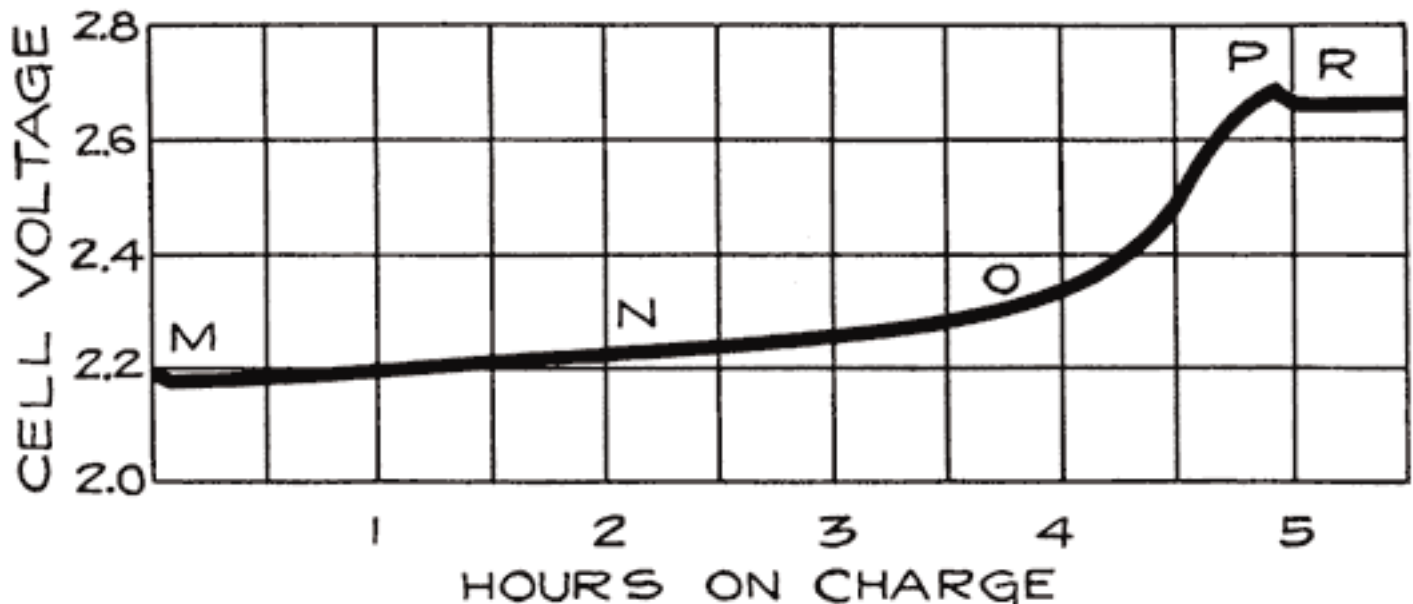

Fig. 24. Voltage Changes During Charge
**Voltage.** Starting with a battery which has been discharged until its voltage has decreased to 1.7 per cell, we pass a current through it and cause the voltage to rise steadily. Fig. 24 shows the changes in voltage during charge. Ordinarily the voltage begins to rise immediately and uniformly. If, however, the battery has been left in a discharged condition for some time, or has been "over discharged," the voltage rises very rapidly for a fraction of the first minute of charge and then drops rapidly to the normal value and thereafter begins to rise steadily to the end of the charge. This rise at the beginning of the charge is due to the fact that the density of the acid in the pores of the plates rises rapidly at first, the acid thus formed being prevented from diffusing into the surrounding electrolyte by the coating of sulphate. As soon as this sulphate is broken through, diffusion takes place and the voltage drops.
As shown in Fig. 24, the voltage remains almost constant between the points M and N. At N the voltage begins to rise because the charging chemical reactions are taking place farther and farther in the inside parts of the plate, and the concentrated acid formed by the chemical actions in the plates is diffusing into the main electrolyte. This increases the battery voltage and requires a higher charging voltage.